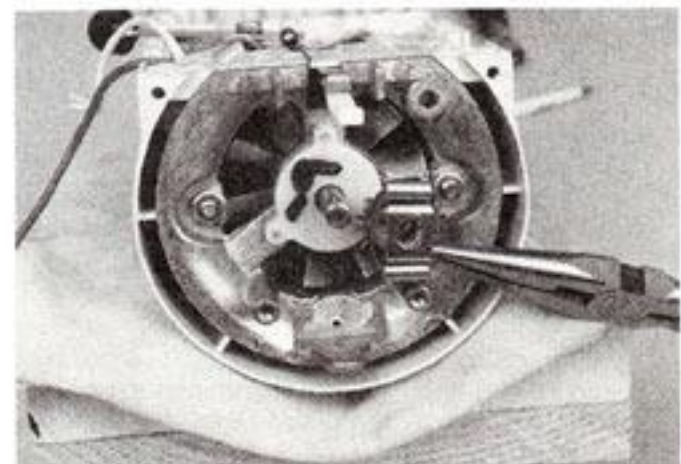

Fig. 46
- M. If the spring in the governor is rusty, replace the governor assembly. Place the governor drive stud in the armature shaft. With drive stud at top of shaft, place the governor on the shaft with the keyway up. Push the governor onto the shaft as far as it will go (Fig. 46 & 47).